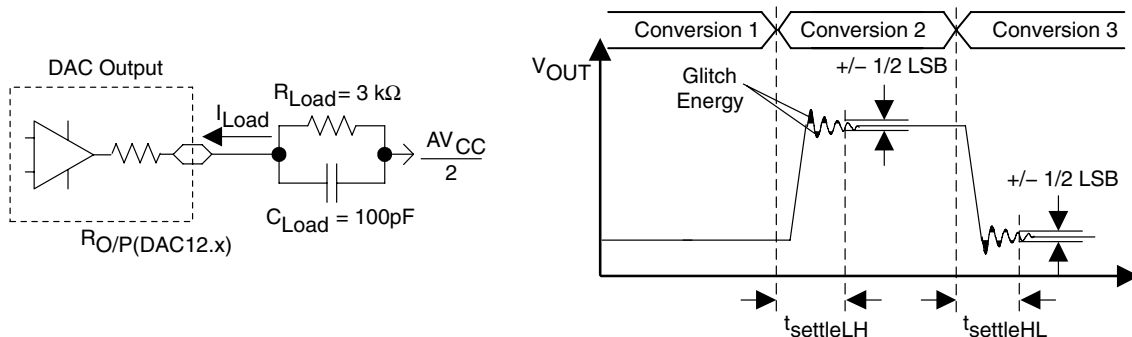
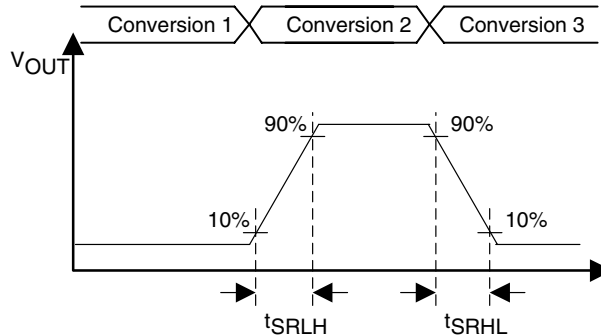

Figure 23. Settling Time and Glitch Energy Testing
Figure 24. Slew Rate Testing
## 12-bit DAC, dynamic specifications; Vref = VCC, DAC12IR = 1 (see Figure 23 and Figure 24)
| t ON           | DAC12_xDAT = 800h,Error v(O) < ±0.5 LSB(see Note 1, Figure 23) | DAC12AMPx=0 → {2, 3, 4} | 2.2V/3V | 60   | 120  | μs   |
- NOTES: 1. RLoad and CLoad connected to AVSS (not AVCC/2) in Figure 23.